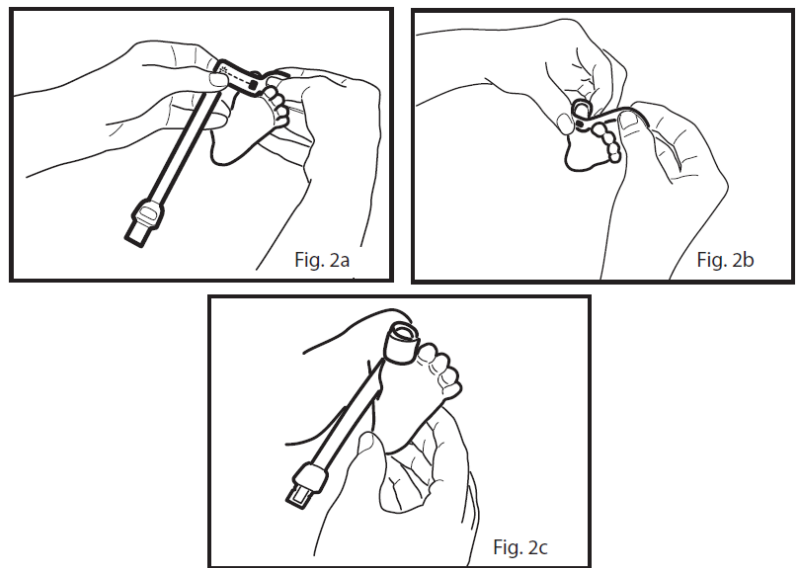

Fig. 20 RD SET Sensor Application for Infants 3-20 kg
- 2 See Fig. 2a in Fig. 20: Direct the sensor cable so that it runs along the top of the foot. Position the detector on the fleshy pad of the great toe. Alternatively, the toe next to the great toe, or the thumb can be used (not shown).
- 3 See Fig. 2b in Fig. 20: Wrap the adhesive wrap around the toe so the emitter is positioned on the nailbed of the great toe. Complete coverage of the detector window is needed to ensure accurate data.
- 4 See Fig. 2c in Fig. 20: Ensure that the emitter window (red star) aligns on the top of the toe directly opposite the detector. Verify correct positioning and reposition if necessary.